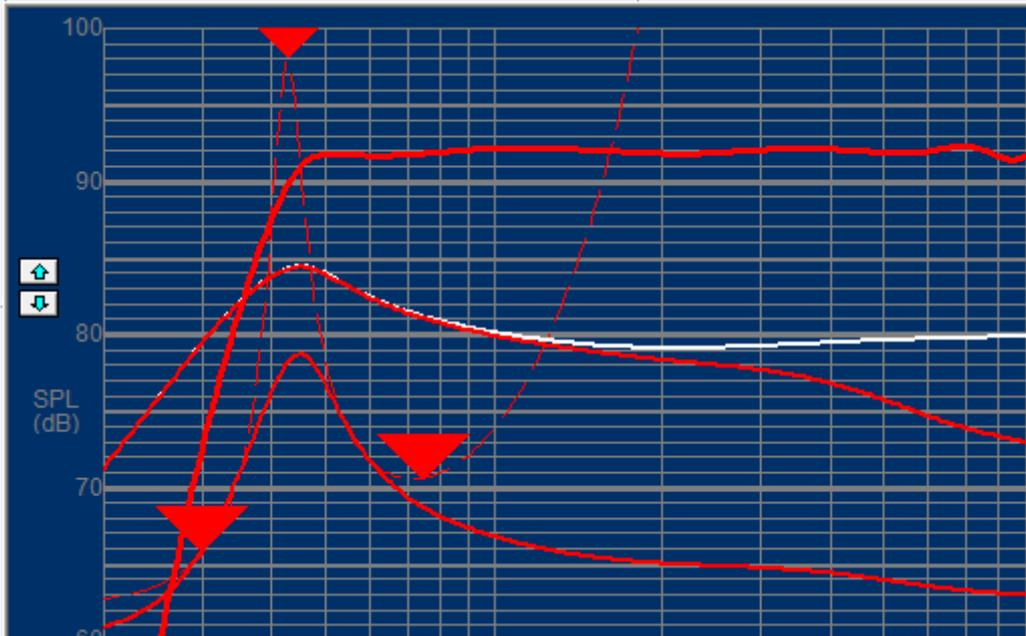

Figure 24 - Setting Bass Boost using imported Vmax limit (- - -)
Figure 24 gives the answer. After defining your box tuning and TS parameters in FINEBox, you can simply export the max. Voltage Limit from FINEBox.
The Max Voltage was imported into FINE DSP and is displayed as the dashed red line Fig. 24. Then by pressing Unit Drive (V) the actual driver voltage is shown as the red line, which is peaking at exactly 55Hz, but is kept lower than the max V (- - - -).